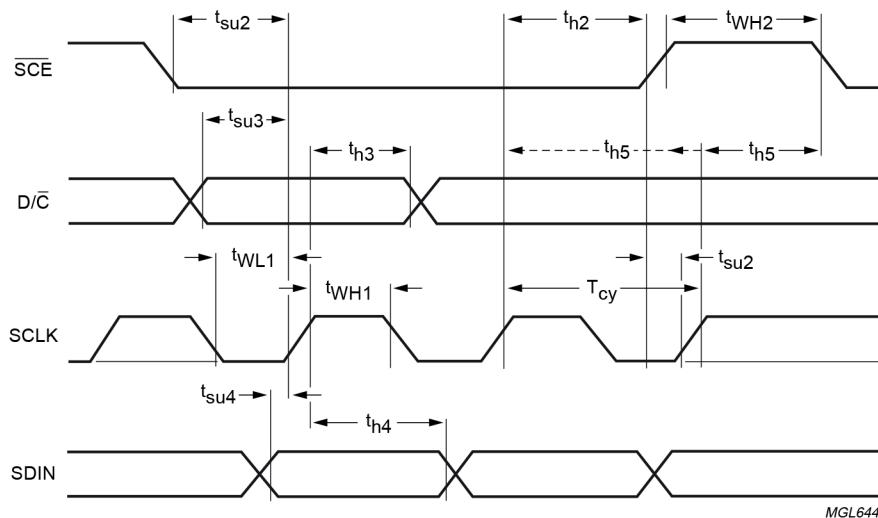

Figure 15: Serial interface timing
3. t_{h5} is the time from the previous SCLK positive edge (irrespective of the state of \overline{SCE}) to the negative edge of \overline{SCE} (see Figure 15).